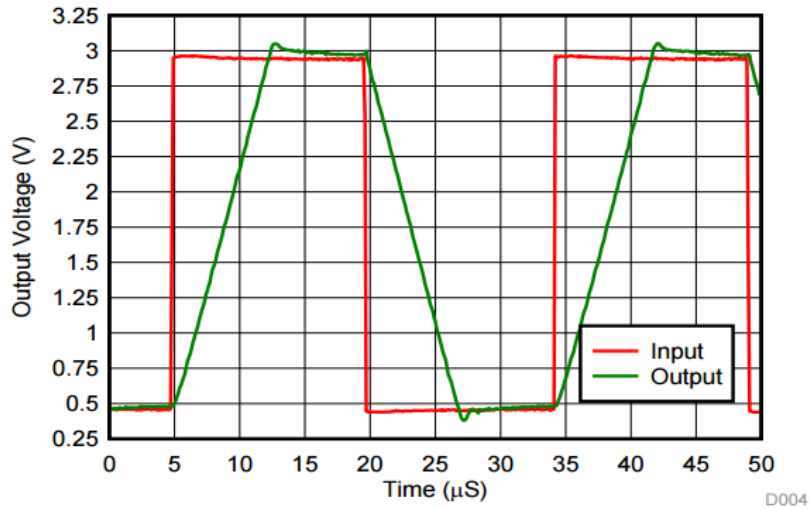

Figure 4. Voltage Follower Large Signal Response (50 pF)
- The smallest of all the source/sink values in the table is 1mA , which leads to $dV/dt = I/C = 1\text{mA}/50\text{pF} = 20\text{ MV/s}$. This number is much larger than the slew rate in Fig 4 so the output stage is not the limiting factor.